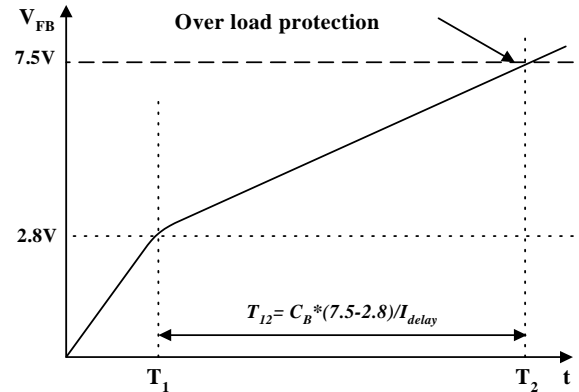

Figure 13. Over Load Protection
**4.1 Over Load Protection (OLP):** Overload is defined as the load current exceeding its normal level due to an unexpected abnormal event. In this situation, the protection circuit should trigger to protect the SMPS. However, even when the SMPS is in the normal operation, the over load protection circuit can be triggered during the load transition. To avoid this undesired operation, the over load protection circuit is designed to trigger after a specified time to determine whether it is a transient situation or an overload situation. Because of the pulse-by-pulse current limit capability, the maximum peak current through the SenseFET is limited, and therefore the maximum input power is restricted with a given input voltage. If the output consumes more than this maximum power, the output voltage ( $V_o$ ) decreases below the set voltage. This reduces the current through the opto-coupler LED, which also reduces the opto-coupler transistor current, thus increasing the feedback voltage ( $V_{fb}$ ). If  $V_{fb}$  exceeds 2.8V, D1 is blocked, and the 5uA current source starts to charge  $C_B$  slowly up to  $V_{cc}$ . In this condition,  $V_{fb}$  continues increasing until it reaches 7.5V, then the switching operation is terminated as shown in Figure 13. The delay time for shutdown is the time required to charge  $C_B$  from 2.8V to 7.5V with 5uA. In general, a 20 ~ 50 ms delay time is typical for most applications. OLP is implemented in auto restart mode.